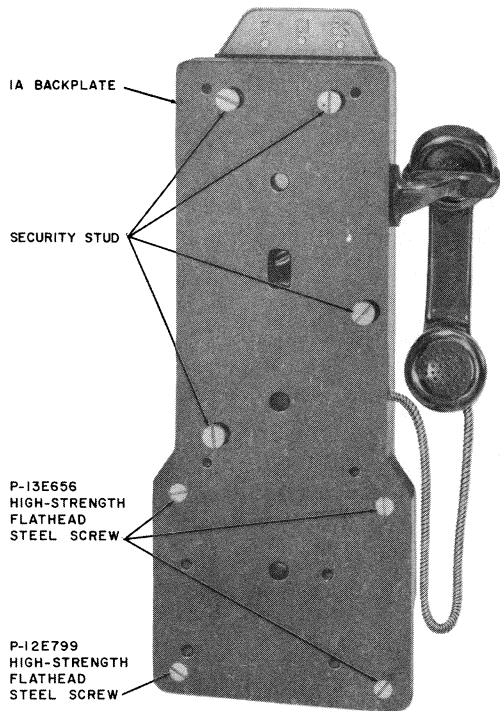

Fig. 14—Rear View of Coin Collector with 1A Backplate Attached
2.24 The 1A backplate is provided with clearance holes for security studs and mounting screws. It is fastened to the coin collector backplate by replacing the four lower housing assembly screws with one P-12E799 and three P-13E656 high-strength flathead steel screws (Fig. 14). Replacement screws must be ordered separately.